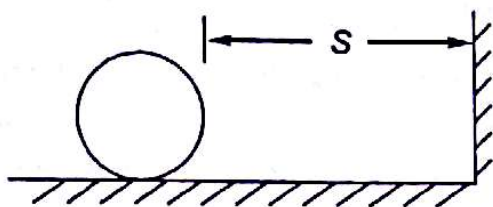

Fig. 21.18
- 21.13 A toy ball is shot to hit the wall of a room as shown in the Fig. 21.18. The ball then returns back to the point of projection. If the time taken by the ball in returning is twice the time taken in reaching the wall, what is coefficient of restitution?